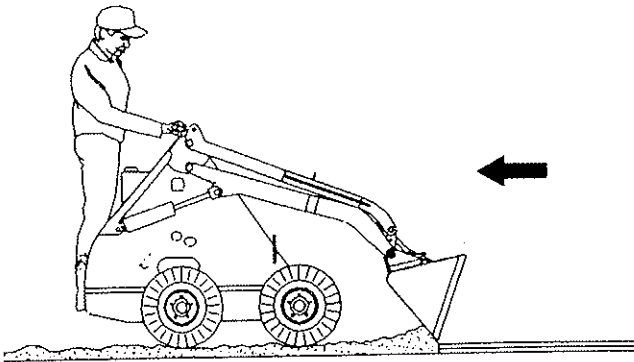

FIGURE 17
2. To level a filled area, tilt bucket forward and drive machine backwards to drag bucket and spread material, as in **Figure 17**.